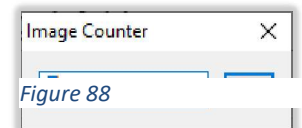

Figure 88
- Alternatively, if film has already been loaded, and the blip currently on screen is a known value, use the *Set* button to manually enter the *Image Counter* window. *Figure 88* Type in the current mark value, then click the *Set* button.